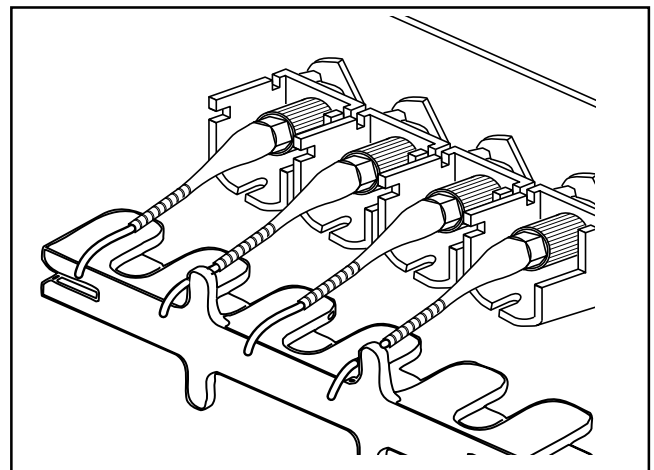

Figure 12
11.3 Slide the connector retainer yoke away from the connector sleeve to access connector sleeve assembly (Figure 12).